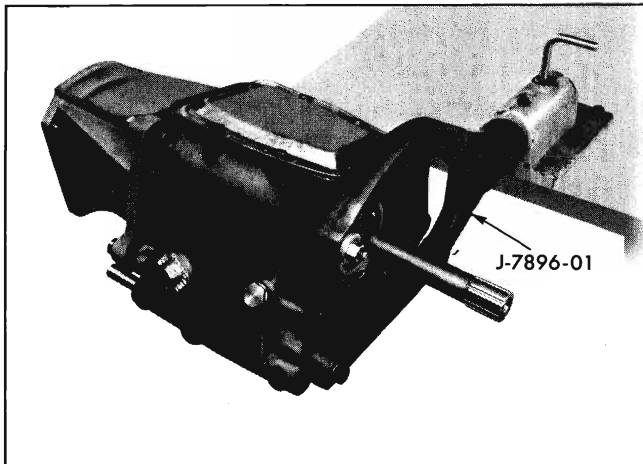

Fig. 7-26 Transmission on Holding Fixture
1. Mount transmission on holding fixture J-7896-01 (Fig. 7-26) and remove extension assembly. Do not scratch or dent mounting surface.